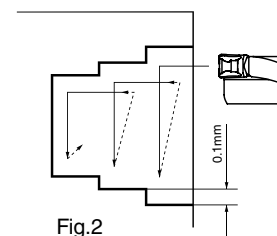

Fig.2
- When widening the face groove width (Ref. to Fig.2)